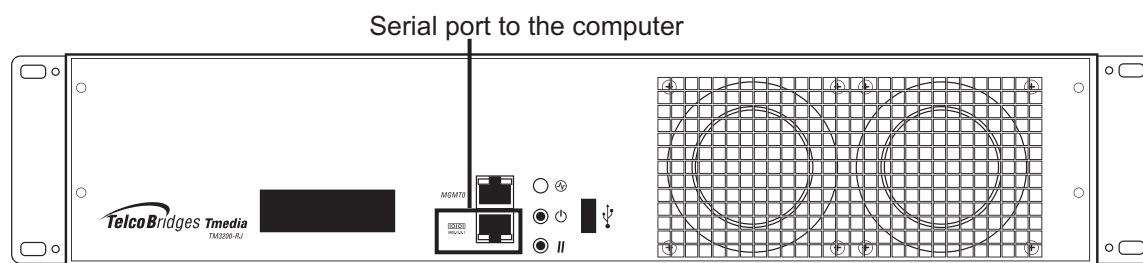

Figure 7.1 Computer to Tmedia VoIP Gateway Serial Port Connection
1. Connect a CAT5 RJ-45 (male-male) cable (supplied with unit) between the com port of your computer and the serial port (labelled 10101) of the Tmedia VoIP gateway as shown in figure 7.1 on page 84. See Section A.2 on page 93 for a RJ-45 console wiring diagram.